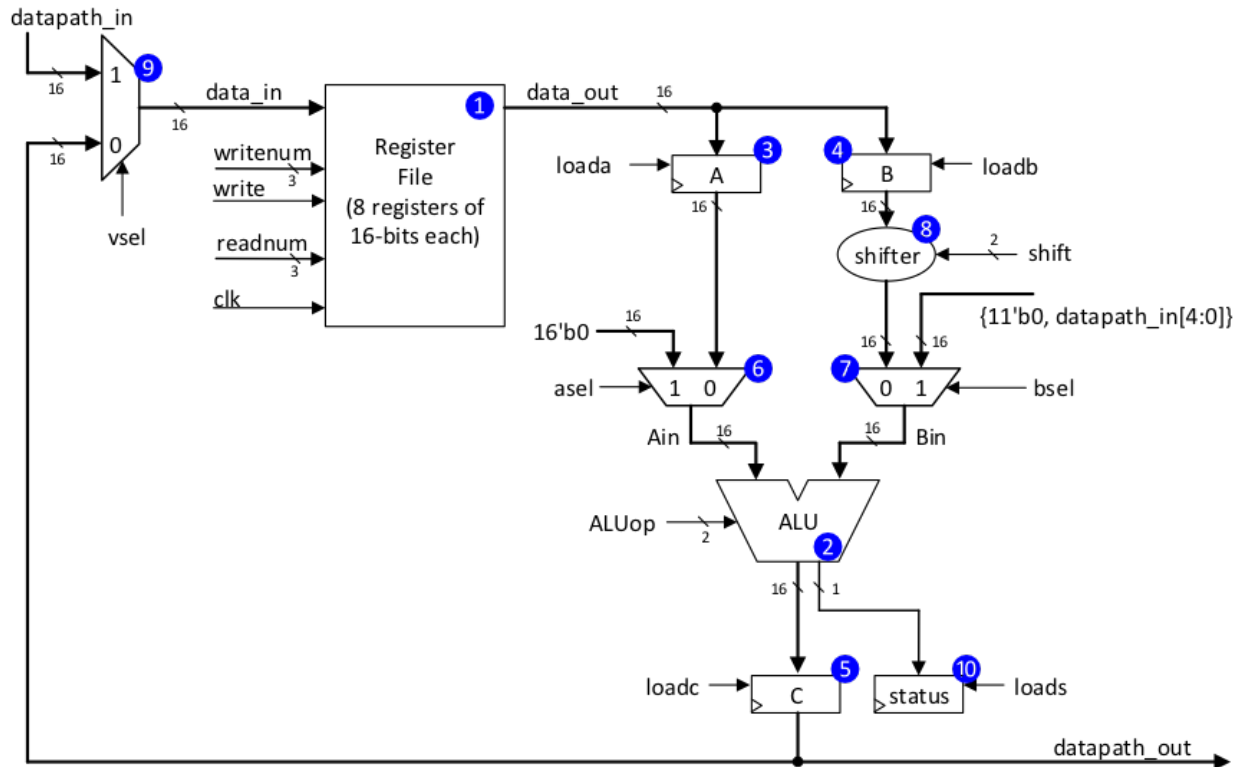
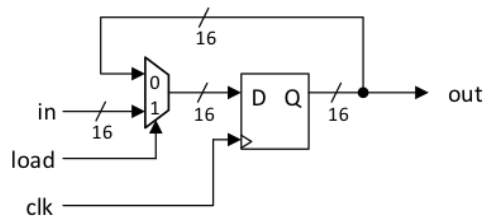
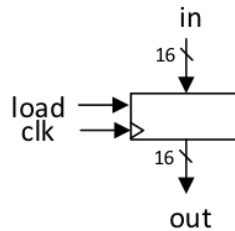

Figure 1: "Simple RISC Machine" Datapath
Figure 2: Register with Load Enable Circuit
Figure 3: Register with Load Enable Symbol (Note: this is used in both Figure 1 and 4)
To execute these instructions, in Lab 5, you will implement a computer *datapath* like that shown in Figure 1. This section introduces and briefly explains the different elements in Figure 1. While reading this section focus on understanding what the individual blocks in this figure do and what other blocks they are connected to rather than trying to understand *why* they are connected the way they are. To understand how all the blocks work together we will subsequently “walk through” an example in Section 2.
To compute with the variables g, h, i, j, t1, and t2, our computer needs a way to “remember” their values. To remember their values, the Simple RISC Machine employs the hardware structure known as a *register file* ①, shown in Figure 1.
The register file for the Simple RISC Machine is a memory that has eight locations numbered 0 through 7, each of which can hold a 16-bit number. Notice that to specify one of the eight locations requires only $\log_2(8) = 3$ -bits, even though each location can hold 16-bits. The eight different locations are more commonly referred to as R0, R1, ..., R7, where the R stands for “register”. Thus, the entire register file can store $8 \times 16 = 128$ bits of information. An *individual* 16-bit register inside the register file is built using what is sometimes referred to as a *register with load enable*. A register with load enable can be implemented with the circuit shown in Figure 2, which you should know how to build based upon the material you will have seen in lecture by the time we reach the end of Slide Set 5 in lecture on Tuesday Oct 3.
Referring to Figure 2, when the input load is 0, the 16-bit value out is passed through the top input of the 2-input binary-select multiplexer back into the 16-bit D input. The effect of this is that when load is 0 and there is a rising edge of the clock, the value stored in the register does *not* change. On the other hand, when load is 1 the value of out is updated to the value on in on the rising edge of the clock. In Figure 1 a 16-bit register with load enable is represented using the symbol shown in Figure 3.
10. Now that all three main datapath modules are trusted to work, instantiate them in your datapath and add the remaining building blocks. Instantiate each of the three units (Register file ①, ALU ② and Shifter ⑧) inside datapath.v. Then, add in the remaining logic blocks ③④⑤⑥⑦⑨⑩ to your datapath module using synthesizable Verilog that conforms to the style guidelines. Use no fewer than one always block or assign statement per hardware block in Figure 1. Register A, B, and C will each require an instantiated flip-flop module and an assign statement for the enable input in order to conform to the style guidelines.